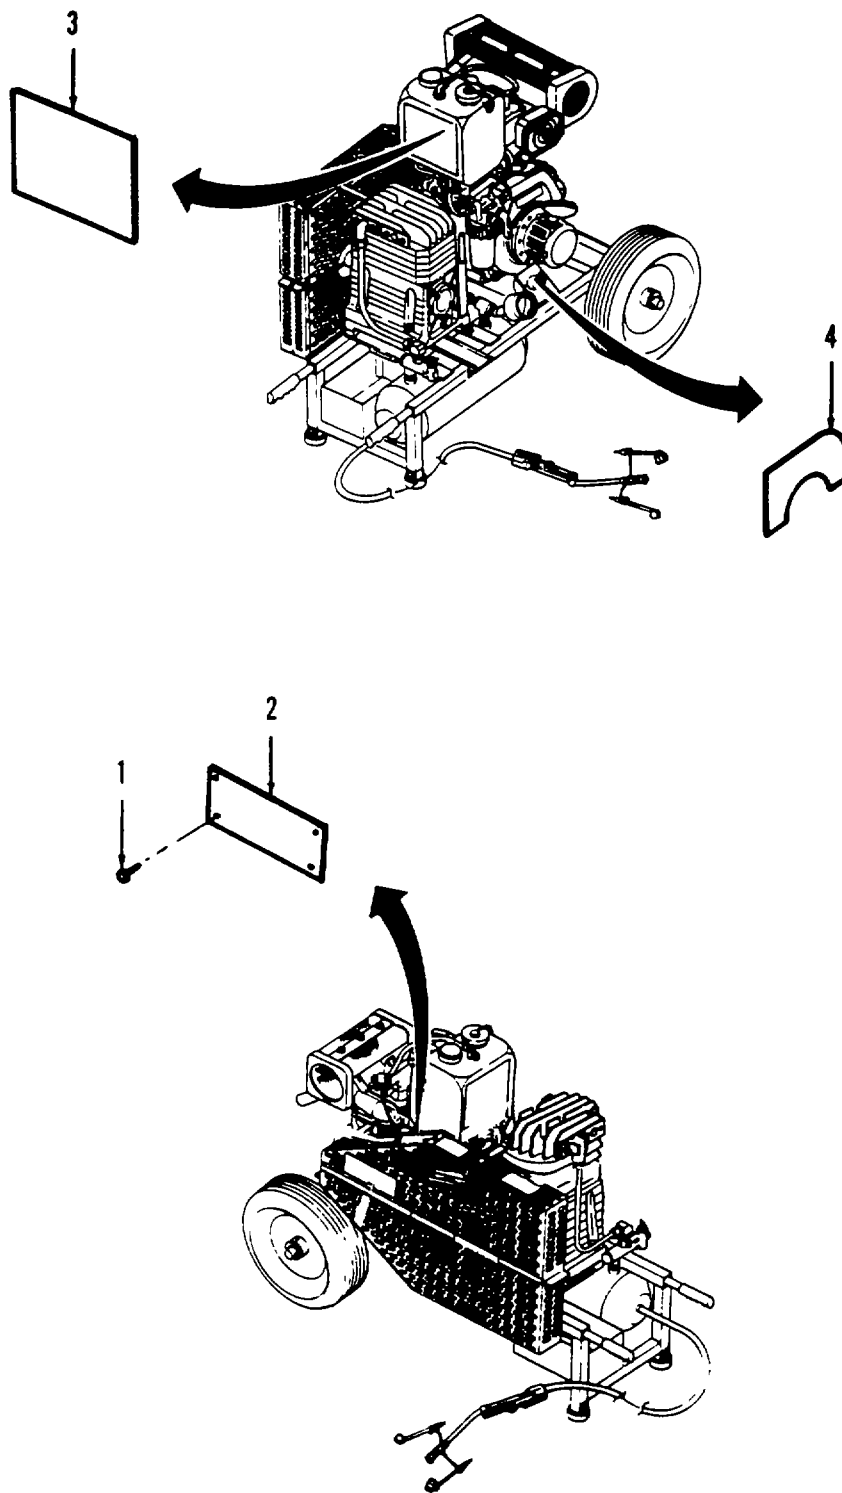

Figure 4-3. Information Plates and Decals Replacement.
a. Removal (Refer to Figure 4-3).
(1) Drill out four .125 in. dia. rivets (1) that holds information plate (2) onto unit. Repeat for other information plates as required.
(2) Remove information plate (2) from unit.
(3) Use a scraper to remove decals (3) or (4) from unit.